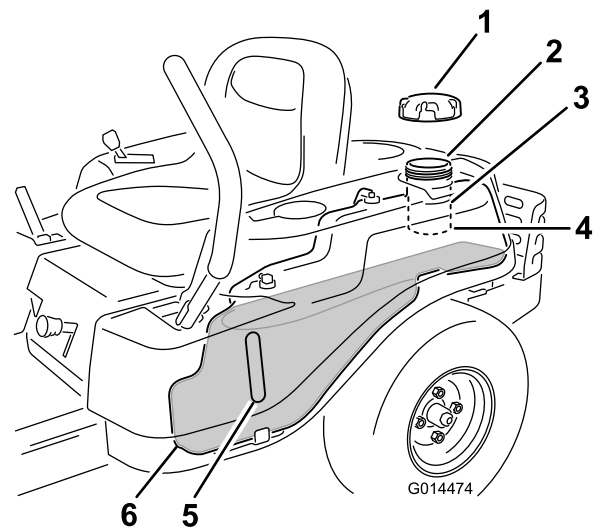

Figure 10
Note: You can use the fuel window to verify the presence of gasoline before filling the tank (Figure 10).
2. Slowly add regular, unleaded gasoline until the fuel reaches the base of the filler neck (Figure 10).